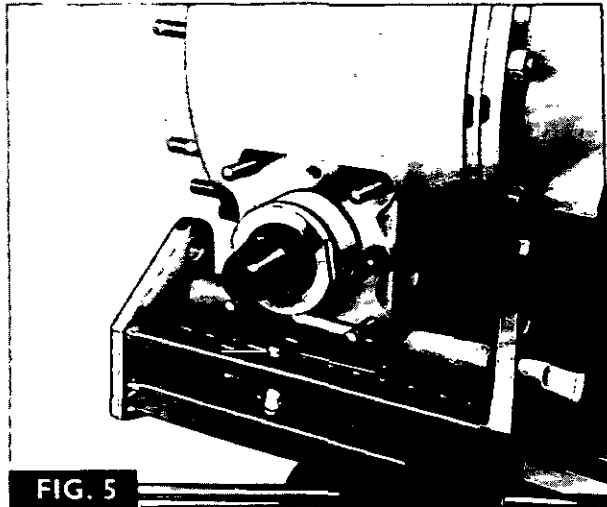

FIG. 5
2. Fit oil seal protector MF 167 over the rear end of the p.t.o. shaft and slide the oil seal assembly onto the shaft as shown in Figure 5. Remove the oil seal protector.
3. Fit oil seal protector MF 167 over the rear end of the p.t.o. shaft and slide the oil seal assembly onto the shaft as shown in Figure 5. Remove the oil seal protector.